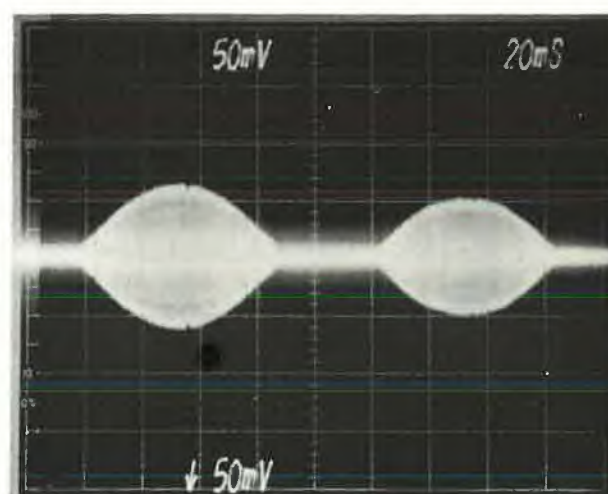

Figure 4-8: Radial Track Alignment Patterns
- E. With power on loosen the stepper motor mounting screws on bottom of drive and rotate the motor so that the "cat's eye" pattern appears on the scope and adjacent lobes are within 70% amplitude (see Figure 4-8). Tighten mounting screws. Command a return to track 00 and then step back to track 32 to verify proper alignment. Command a seek to track 64 and then step back to track 32 to verify proper alignment.